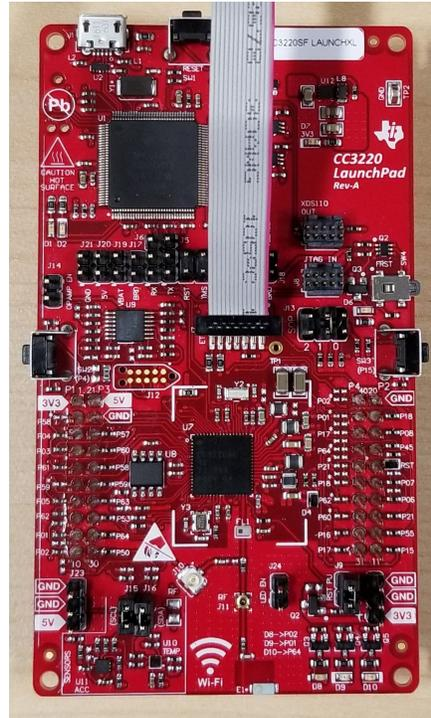

Figure 2-19. XDS110 ETHDR Connection to CC3235SF Device
- c. Connect the 14-pin auxiliary cable to J7, as shown in Figure 2-19.